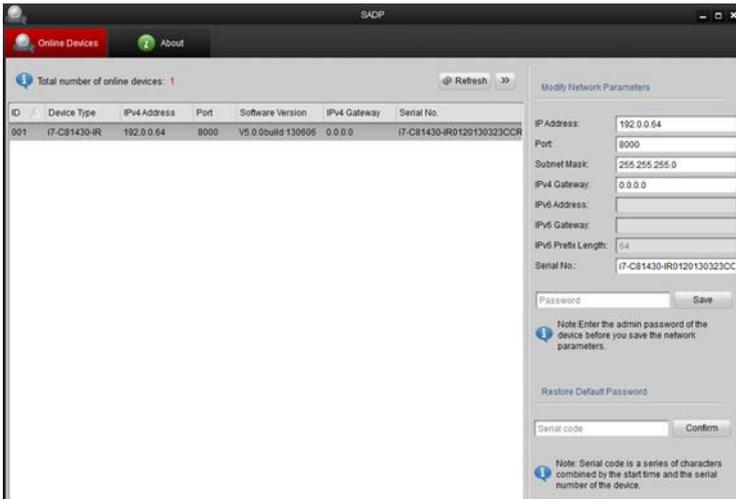

Figure 3-2 Searching Online Devices
- Use SADP, a software tool which can automatically detect network speed dome in the LAN and list the device information like IP address, subnet mask, port number, device serial number, device version, etc., shown in Figure 3-2.